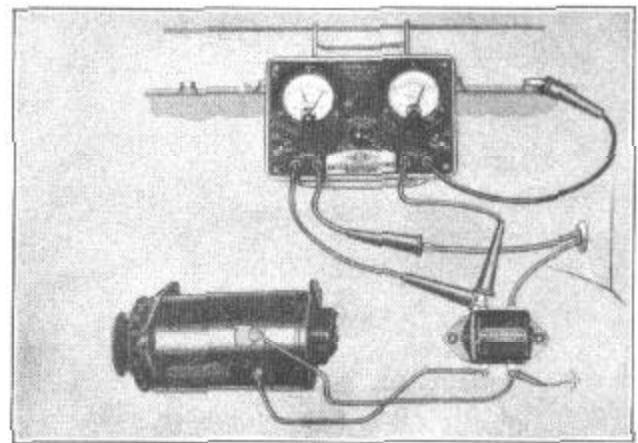

FIGURE 23
1. Remove the jumper wire from the voltage regulator to ground, Figure 23.